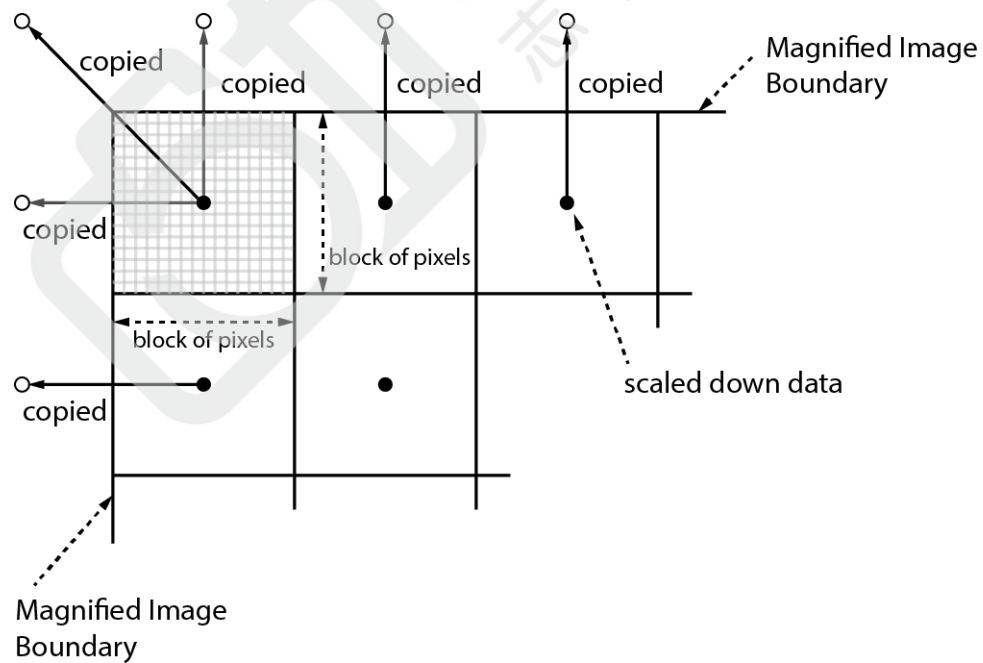

Figure 9.10 Bilinear Interpolated Magnification
3. Click the **Save to Flash** button in the **Flash Memory** category to save the generated Flat Field Correction data into the non-volatile memory. The scaled down Flat Field data will be expanded and then applied as shown in the Figure 9.10 when they are used for correction.
3. Execute the 'sfd' command to save the generated Flat Field Correction data into the non-volatile memory. The scaled down Flat Field data will be expanded and then applied as shown in the Figure 9.10 when they are used for correction.